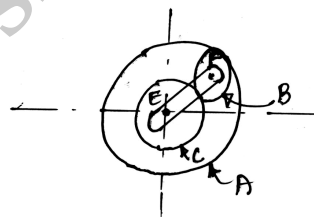

Fig Q10(b)
- b. An epicyclic gear consists of three gears A, B and C as shown in Fig Q10(b). The gear A has 72 internal teeth and gear C has 32 external teeth. The gear B meshes with both A and C and is carried on an arm EF which rotates about the centre of A at 18rpm. If the gear A is fixed, determine the speed of gears B and C.